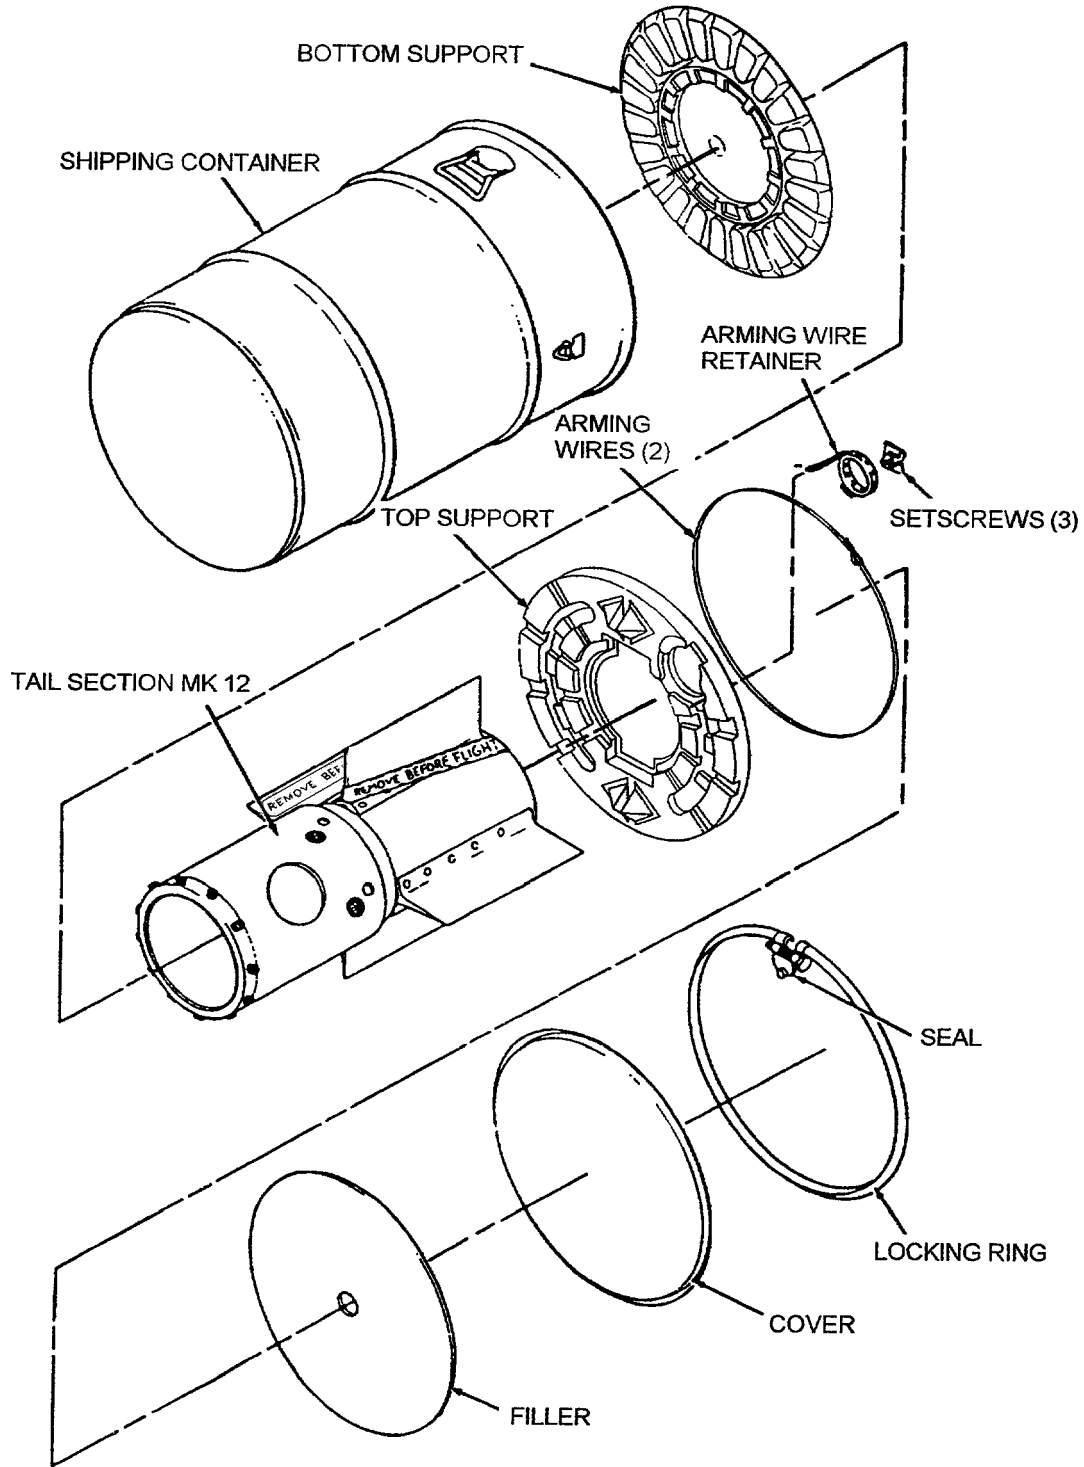

Figure 4-7A. Flight Gear Kit Mk 166 Unpackaging
- g. Remove the arming wire retainer, the plastic bag containing three 1/4-20 x 1-inch setscrews and the two coiled arming wires from the top support in the container (Figure 4-7A).